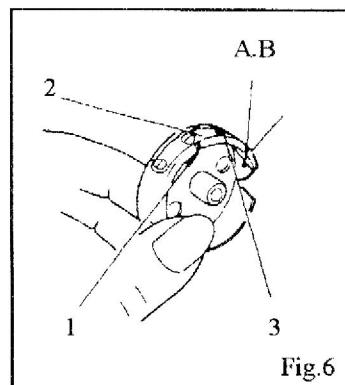
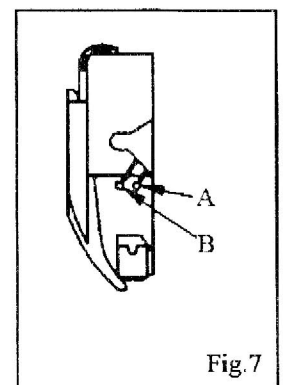

Fig. 6
Fig. 7
Pull the thread into slot (1) and under the tension spring (2) and into slot (3) as shown in Fig. 6. Then draw thread into delivery eye (A or B), as shown in Fig. 6. Use delivery eye (A) for sewing light weight material, as shown in Fig. 7.